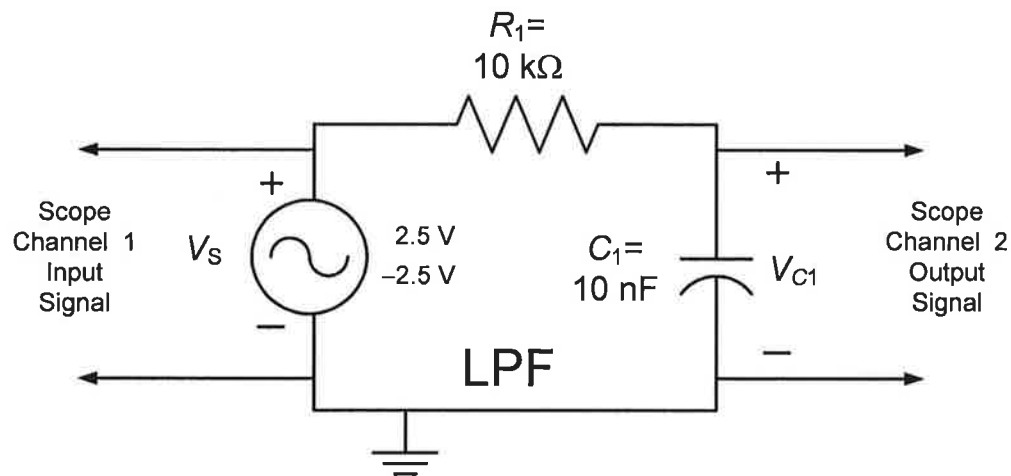

Figure 6. First-order LPF RC circuit excited by a sinusoidal source.
**Pre-lab Assignment 2:** Replace the rectangular pulse source in the RC circuit in Fig. 1 with a sinusoidal source as shown in Fig. 6. Note that the ***cutoff frequency*** of this first-order LPF circuit is defined as the frequency at which the peak value of the output signal is  $(1/\sqrt{2})$  (or  $\sim 0.707$ ) times the peak value of the input signal and is given by  $f_c = 1/(2\pi RC) = 1/(2\pi\tau)$  (in Hz). This means that a sinusoidal input signal  $V_S$  with an oscillation frequency below this cutoff frequency yields an output signal which is very close to the input signal (that is the input signal  $V_S$  applied at the input port of the circuit results in an output signal at the output port of the circuit which is almost identical to the input signal) whereas a sinusoidal input signal  $V_S$  with frequency above this cutoff frequency yields an output signal which has a much smaller peak value compared to the peak value of the input signal. Calculate the cutoff frequency of this LPF from the element values provided in the Fig. 6 using  $f_c = 1/(2\pi RC)$ .
**Lab Experiment 2.a:** Construct the circuit shown in Fig. 6. Observe both voltages  $V_S(t)$  and  $V_{C1}(t)$  on the scope simultaneously for 500 Hz, 5 kHz, and 50 kHz. Sketch and label the waveforms. Comment on your observations based on the cutoff frequency calculated in the pre-lab assignment.